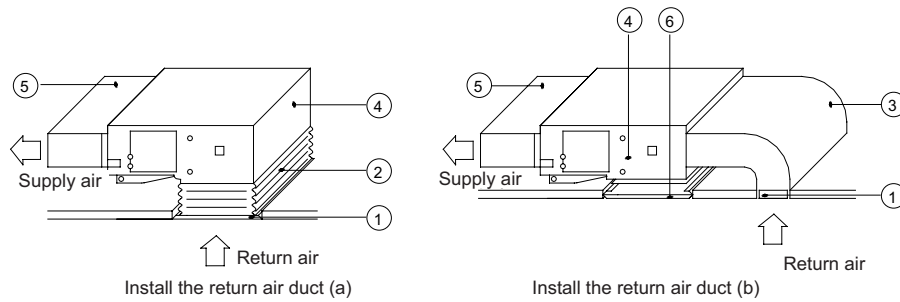

Figure 3-1-22 Installation of the return air duct
(6). The installation method can be chosen with considering the conditions of the building and maintenance etc., as shown in Fig.3-1-22.